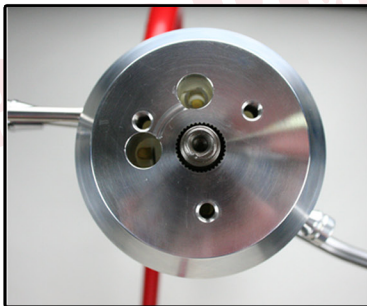

Figure 4
1. Check to verify the driving wheels are straight. On the top of the column there is a tube sticking out of the column. This tube should be in the 10 - 12 o'clock position when the wheels are straight. Set the adaptor on the shaft of the column, this may require you to rotate the shaft a little to the closest tooth on the spline of the column until the adaptor sets into position. (See Figure 4)